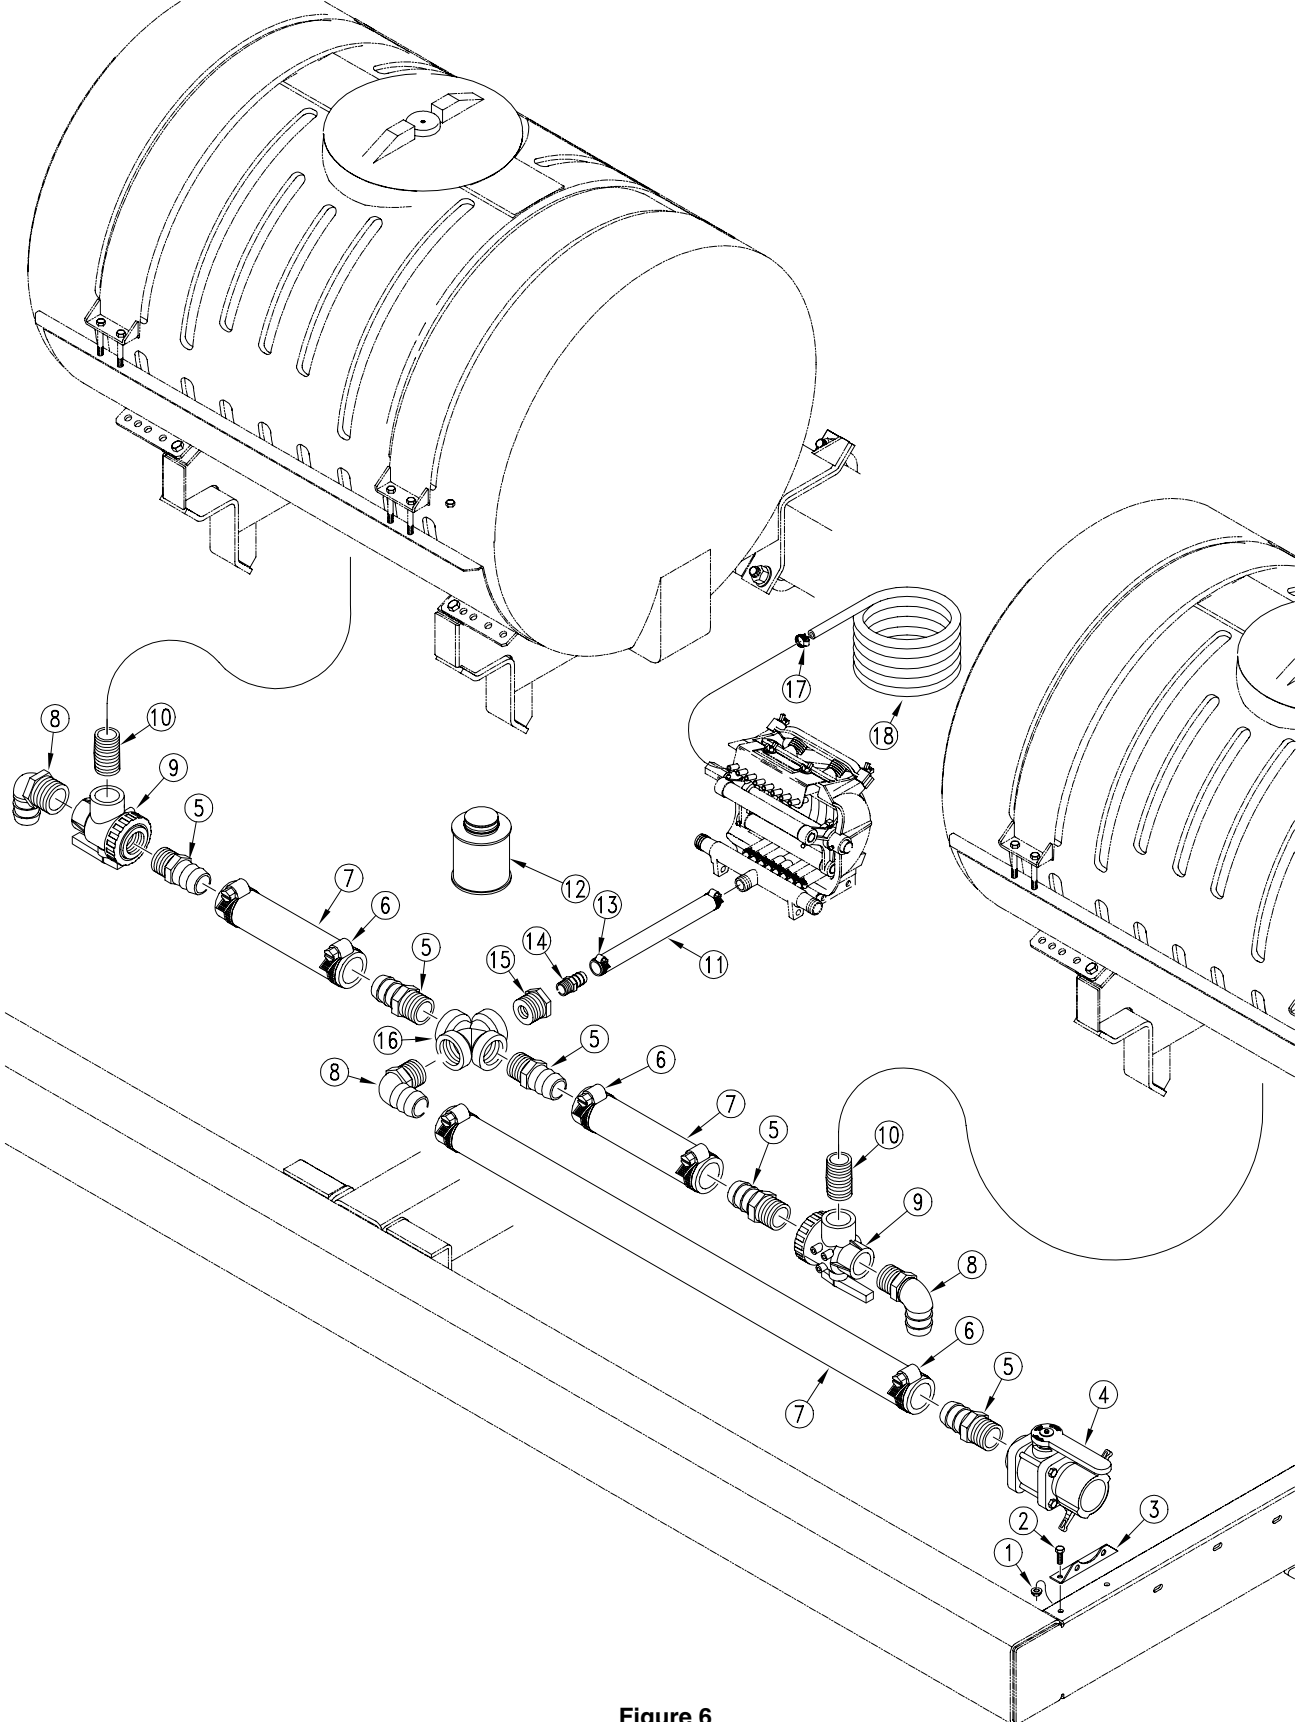

Figure 6
- Assemble plumbing as shown in Figure 6 with the parts listings on page 4. Be sure to use Rectorseal (#12) on all fittings. Cut to length 3/8" diameter hose to fit your coupler option.
Refer to Figure 6 for the following: